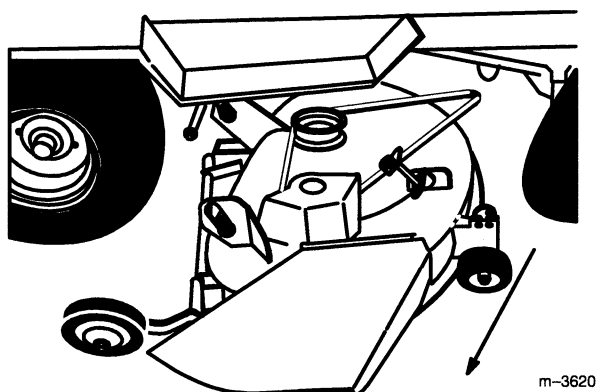

Figure 14
8. Turn the front wheels fully to the left and raise attachment lift lever all the way to the latched position; refer to tractor Operator's Manual. Slide the mower out from under the chassis to the the right side (Fig. 14)